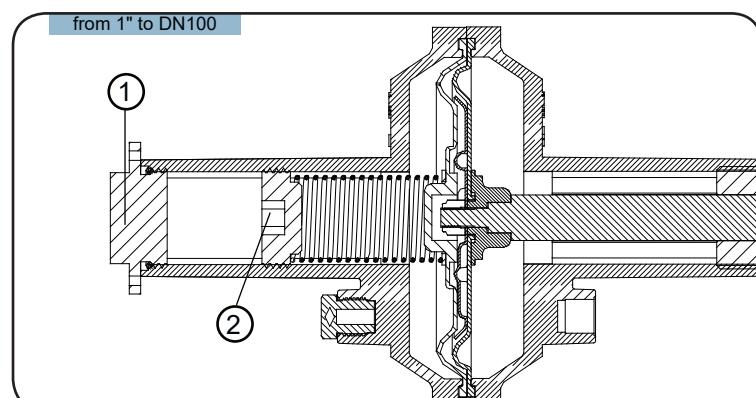

Fig.2
Unscrew the **regulation cap** (1) to access the **spring presser** (2) Fig.2.